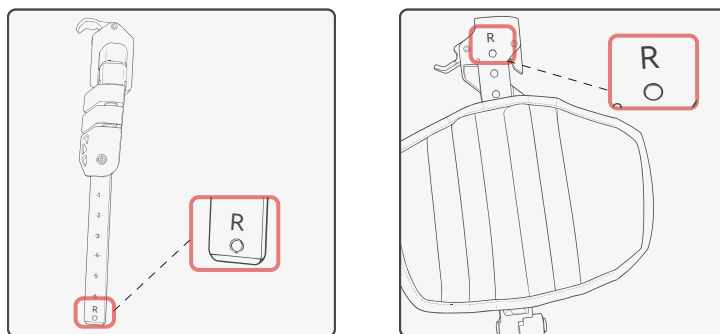

Figure 5 Right Hip Joint
(1) Prepare the right hip joint and right thigh support. The corresponding positions are marked with "R" (Right), as shown in Figure 5.